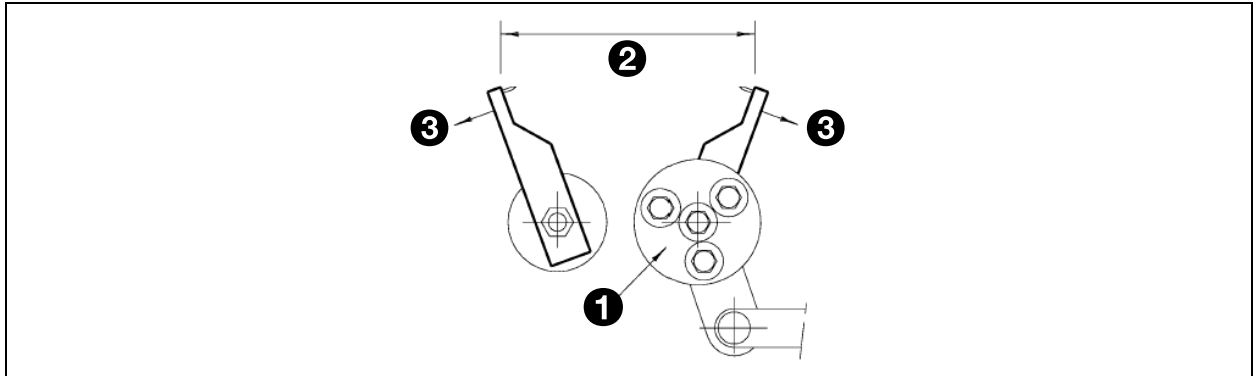

Fig. 196 - Adjustment of needle-units
- 2 Using the adjustment-ring (1), set the interval between the needle-units to 80 mm (2). Increase the clearance towards the outside (3) See fig. 196.